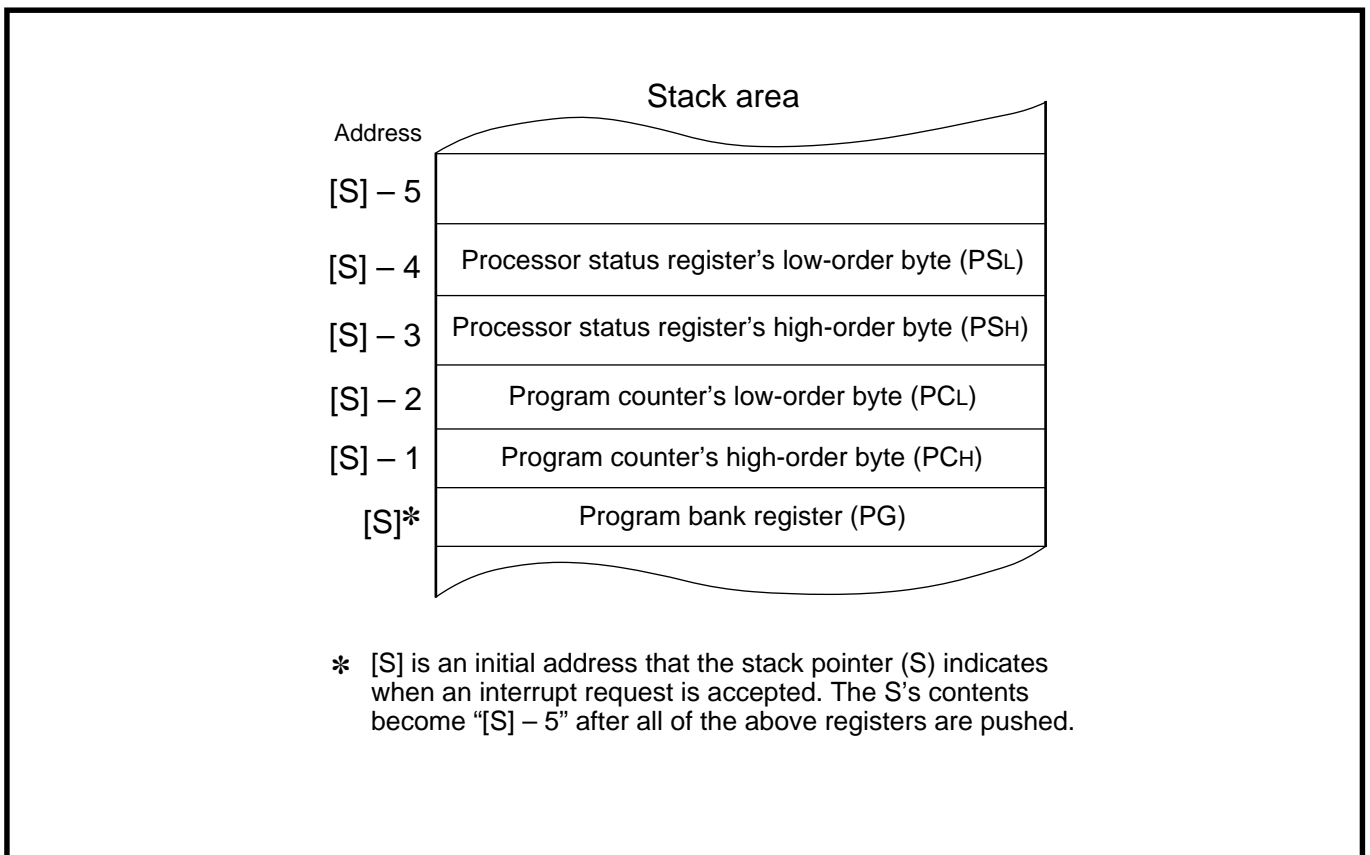

Fig. 7.1.2 State of stack area just before entering interrupt routine
- ① Program bank register (PG)
- ② Program counter (PCL, PCH)
- ③ Processor status register (PSL, PSH)
Figure 7.1.2 shows the state of the stack area just before entering the interrupt routine. Execute the **RTI** instruction at the end of this interrupt routine to return to the routine that the microcomputer was executing before the interrupt request was accepted. By executing the **RTI** instruction, the register contents pushed onto the stack area are pulled ③→②→① in that order. Then, the suspended processing is resumed from where it left off.